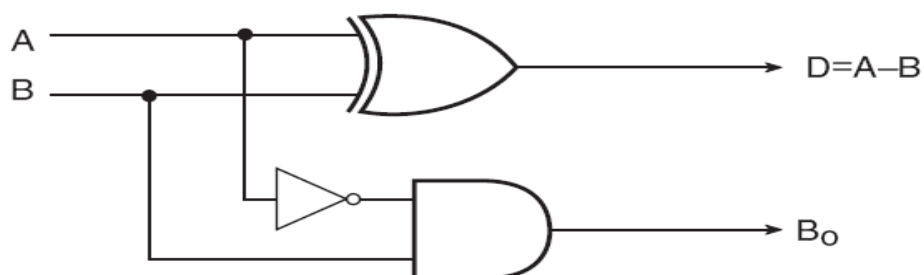

Fig 3.4
3.2.3 Half-Subtractor A *half-subtractor* is a combinational circuit that can be used to subtract one binary digit from another to produce a DIFFERENCE output and a BORROW output. The BORROW output here specifies whether a '1' has been borrowed to perform the subtraction. The truth table of a half-subtractor, as shown in Fig 3.4 The Boolean expressions for the two outputs are given by the equations
While the expression for the DIFFERENCE (D_ output is that of an EX-OR gate, the expression for the BORROW output (Bo_ is that of an AND gate with input A complemented before it is fed to the gate. Figure 3.4 shows the logic implementation of a